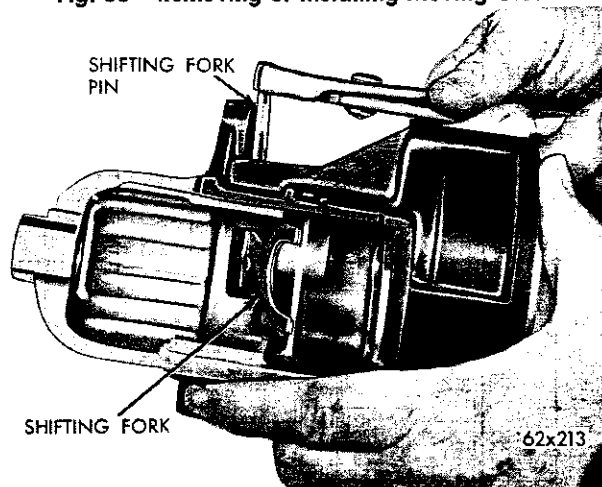

Fig. 34—Removing Shifting Fork Pin
(26) Remove the shifting fork retainer pin (Fig. 34) and remove the clutch shifting fork assembly.
(1) Position the shifter fork in the drive housing and install the shifting fork retainer pin (Fig. 34). One tip of pin should be straight, the other tip should be bent at a 15 degree angle away from the housing. Fork and retainer pin should operate freely after bending the tip of pin.